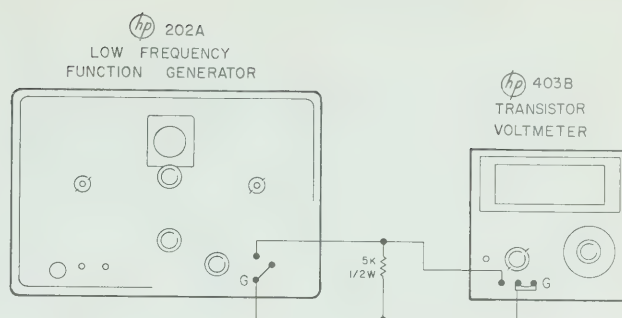

Figure 5-7. Low Frequency Response Setup
a. Connect an hp Model 202A LOW FREQUENCY FUNCTION Generator, terminated with a 5000-ohm 1/2-watt resistor, to the 403B as shown in figure 5-7.
a. Connect  Model 202A Low FREQUENCY FUNCTION GENERATOR, terminated with a 600 ohm load, to the Model 403B as shown in figure 5-7.